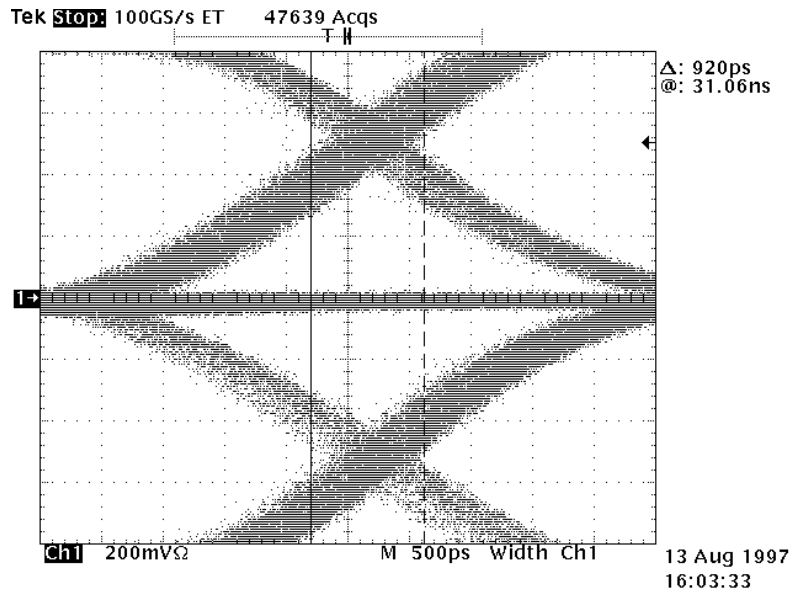

Figure 9-1. Transmit Jitter Data
5. Scroll horizontally until an eye pattern is found similar to that shown in Figure 9-1.
7. Use the scope's vertical bar cursors to measure the widest "X" as shown in Figure 9-1.